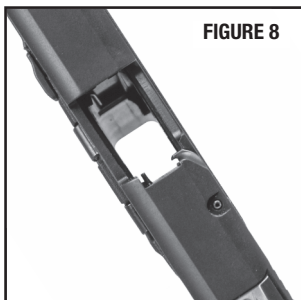

FIGURE 8
- Check the firearm thoroughly to assure that no ammunition is present (FIGURE 8).